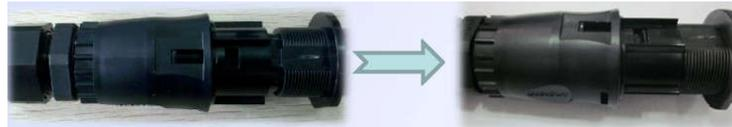

Figure 4-13
- After wrest the cable gland, align male and female side and mate them together by hand until a “Click” is heard or felt, see Figure4-13.